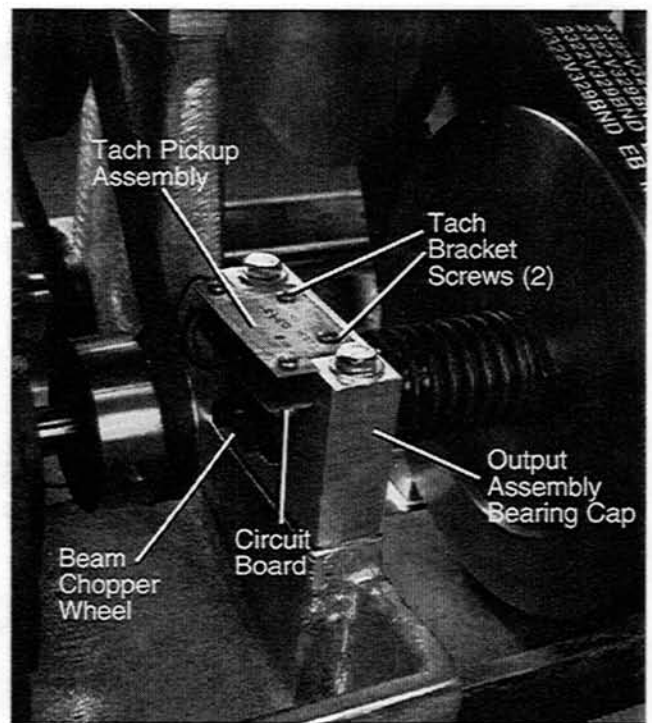

Figure 3-9. Tachometer Optical Sensor
3. Remove two screws on the top of the tachometer optical sensor bracket, then lift the bracket straight up. See Figure 3-9.
2. Remove the two screws that hold the tachometer optical sensor in place, then move the sensor out of the way. See Figure 3-9 on page 3-5.